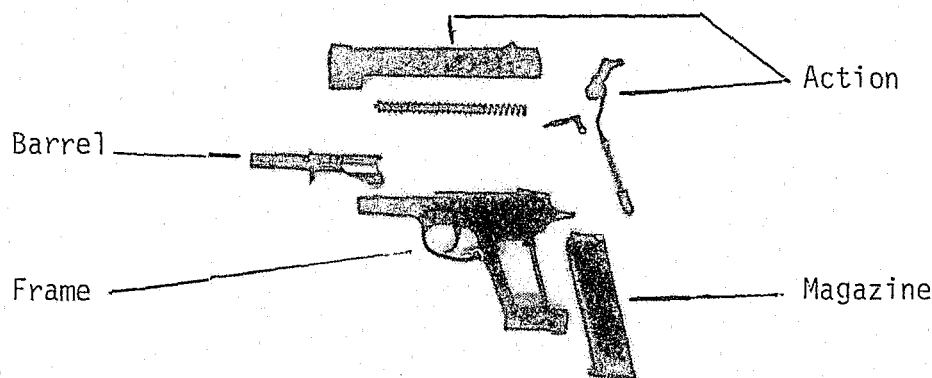

Figure 3-2
1. Major Parts (See Figure 3-2)